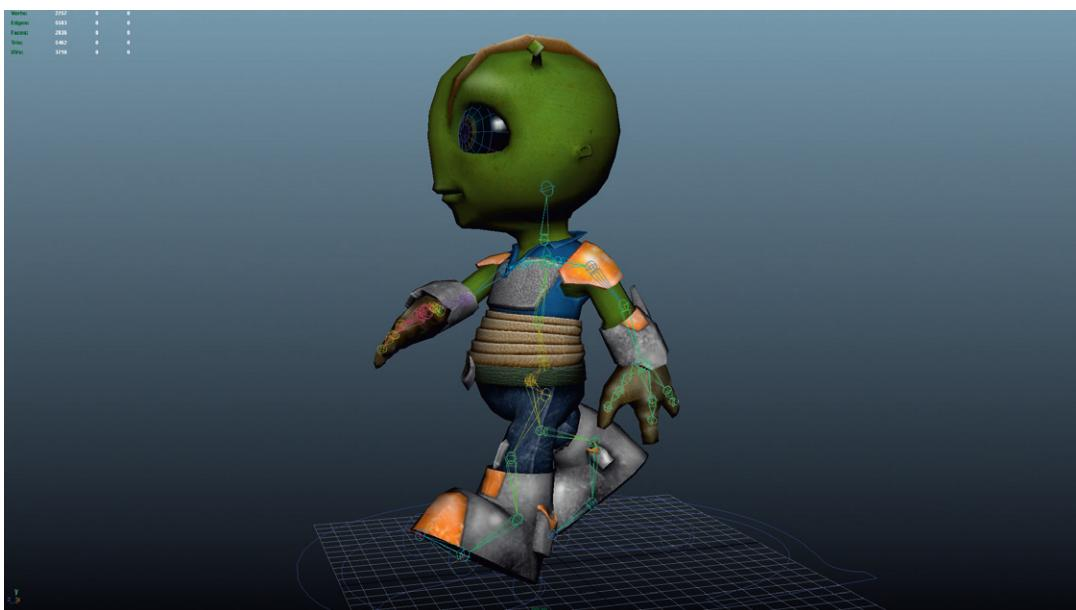

FIG 9.38 Animating the arms.
Step 26: Pose the arms. At frame 1, rotate the shoulders, elbows, and wrists to match Fig. 9.38. Notice that the arms are opposite to the legs – so if left foot is forward, then right arm is forward. Remember that each time you move a joint, be sure to hit s to record the key. Also be sure to set a key-frame at frame 24 to match frame 1 for each joint. Move to frame 12 and rotate the arms opposite.